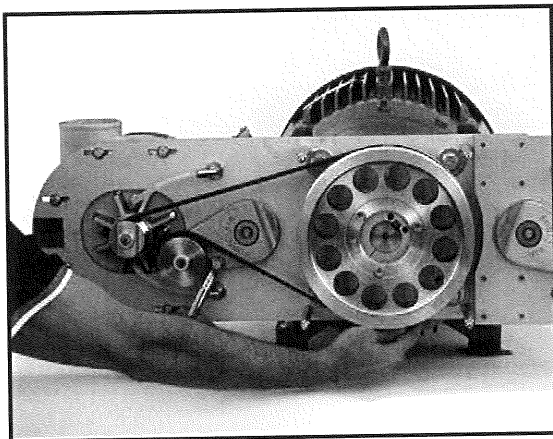

Figure 20 – Reinstall Belt
8. Using the 9/16 inch box-end wrench, rotate the belt tensioner arm counter clockwise (CCW). At the same time wrap the belt around the blower pulley, then along the right side of the idler pulley, and finally around the motor pulley. (See Figure 20)